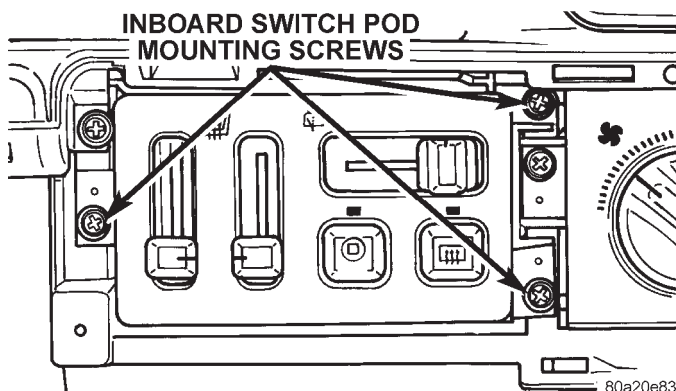

Fig. 15 Inboard Switch Pod Remove/Install
(1) Disconnect and isolate the battery negative cable.
(2) Using a trim stick or another suitable wide flat-bladed tool, pry gently around the edges of the inboard switch pod bezel and remove the bezel.
(3) Remove the three screws that secure the inboard switch pod to the instrument panel (Fig. 15).